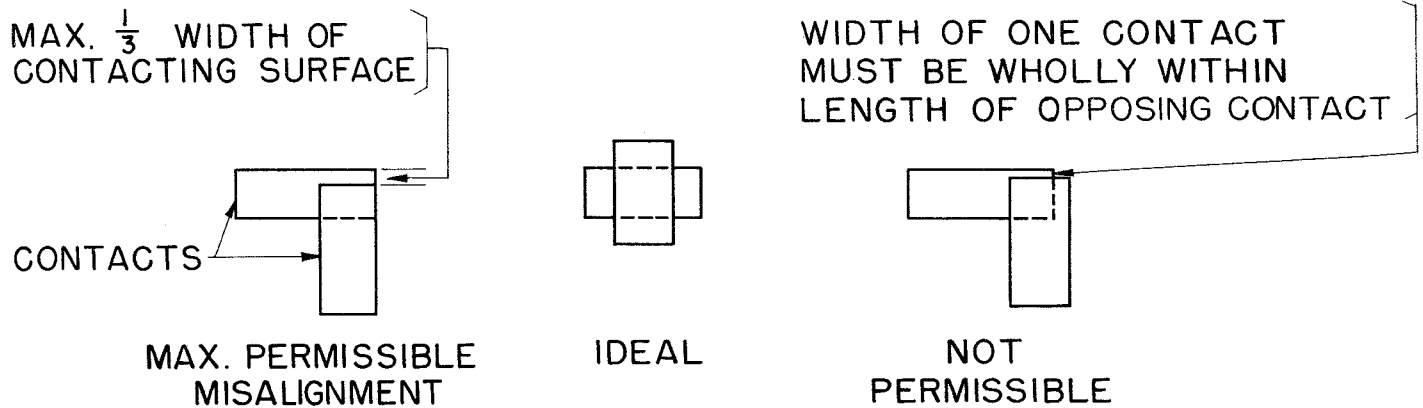

Figure 76
- (a) The alignment of all contacts shall be within the limits indicated in Figure 76 as gauged by eye.